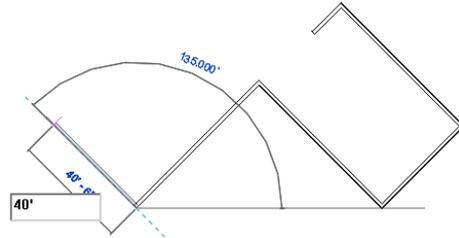

**Figure 3-46** Sketching the fourth inclined wall segment
- g. Use the **Center-ends Arc** sketching option to create the curved wall, refer to Figures 3-46 and 3-47.
7. To create the next wall, move the cursor upward toward the left and invoke the perpendicular snap override as in step 5. Enter **60'** (**18288 mm**) as the length of the wall segment and press ENTER to create the fourth inclined wall segment, as shown in Figure 3-46.